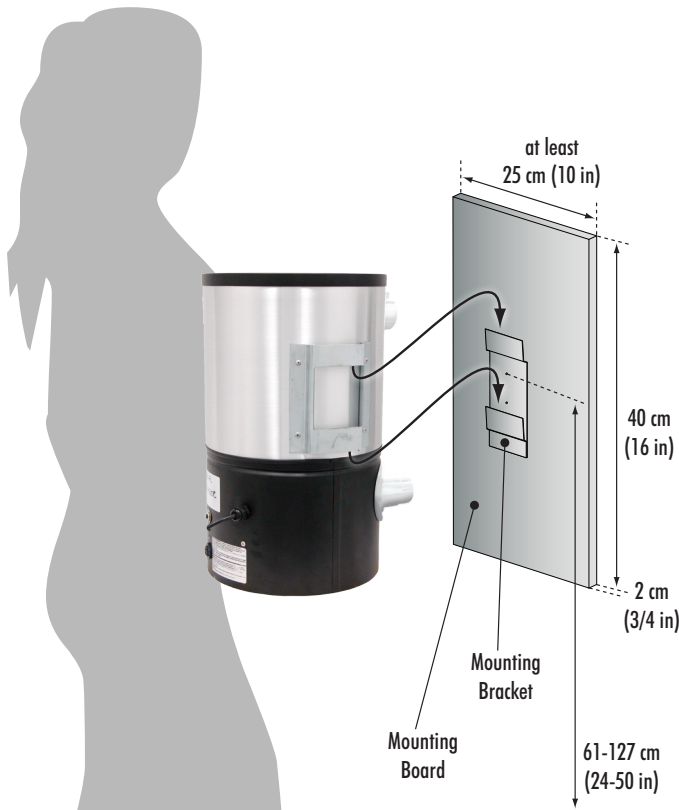

Fig.1 Mounting the power unit on the wall.
4. Insert the power unit bracket into the mounting bracket (as shown in Fig. 1).